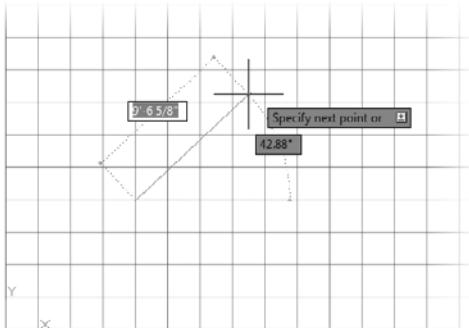

FIGURE 3.13 One point picked on the grid
2. Hold the crosshair cursor above and to the right of the point you just picked. AutoCAD shows ghosted linear and angular dimensions that dynamically display the length and angle of the first line segment as the cursor moves, and a tooltip window displays the current prompt for the LINE command (see Figure 3.13).